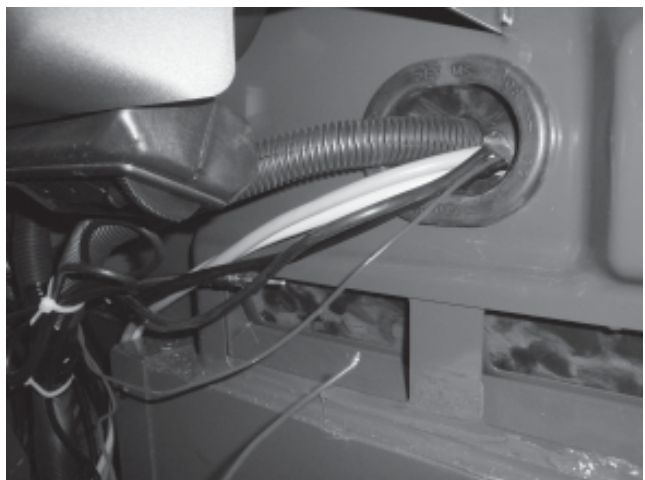

Figure 18
18. Route the mini-rocker switch wiring under dash across vehicle to grommet. Push through grommet and connect bullet connectors to pigtail of remote socket. Red ignition key wire of mini-rocker wiring, as shown in Figure 18, can be spliced into remote socket red ignition key wire using an electric splice provided with winch kit. Use cable ties provided with winch kit to secure wires when routing is complete.